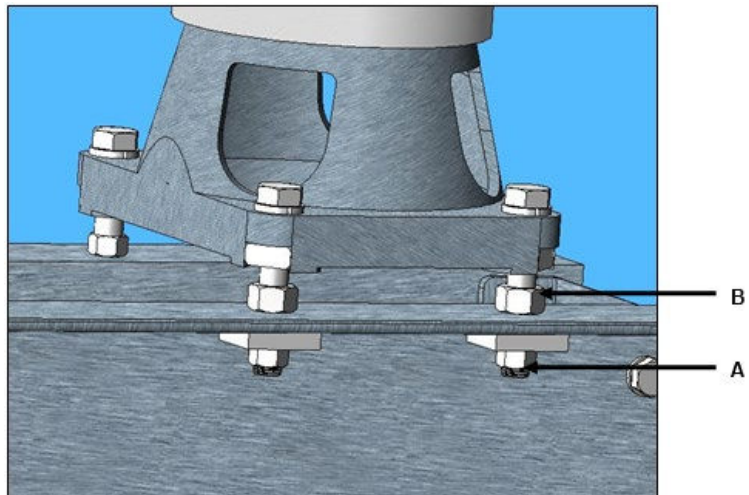
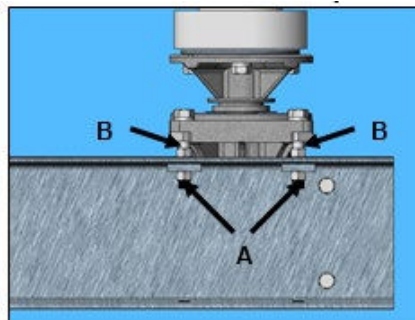

Figure 3: Insulator Stack Alignment
Figure 12: Insulator Stack Adjustment
- 1.6.1. Always be sure to tighten the bottom hex nuts securely after jackscrew adjustments are complete (**Figure 3**).
- 4.10.1. Refer to **Figure 3** and **Figure 12**. Adjust both "A" nuts and "B" nuts equally to correct any misalignment.